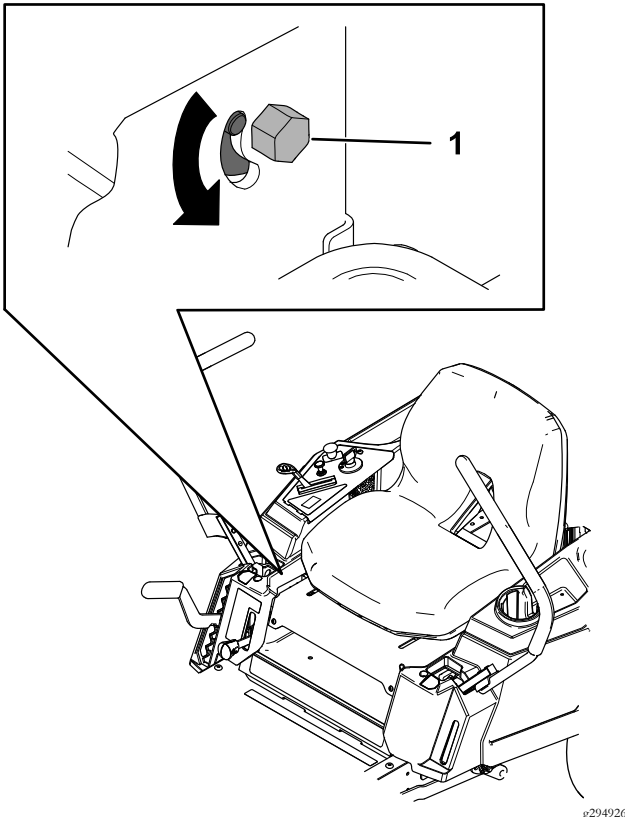

Figure 23
2. Locate the tracking adjustment bolt near the motion control lever on the side that needs adjusting (Figure 23).